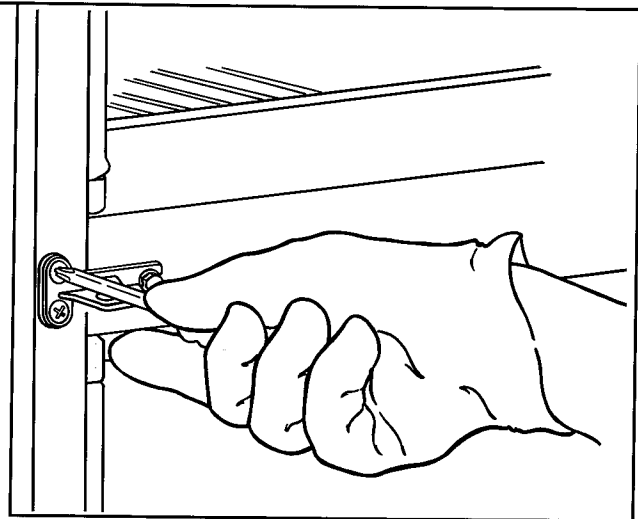

Figure 40
- e. Secure bracket with two Phillips head screws removed from other side. See Figure 40.